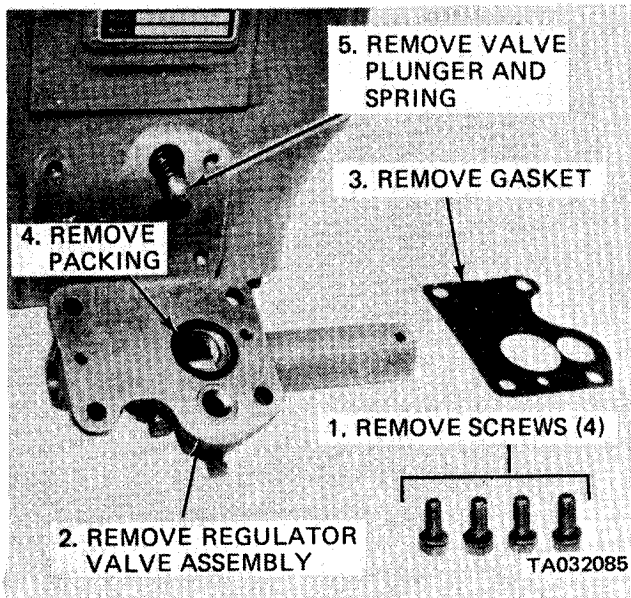

Figure 4-1. Regulator valve assembly, removal and installation.
- (1) Remove torque converter assembly (para 2-7).
- (2) Remove regulating valve assembly (fig. 4-1).
(1) Install seat, plunger and spring in torque converter housing (fig. 4-1).
(2) Place new packing in groove on housing. Ensure that packing was immersed in transmission oil.
(3) Install new gasket on regulator valve assembly housing and secure regulator valve assembly to torque converter using four screws. Tighten screws to 26-28 lb-ft torque.